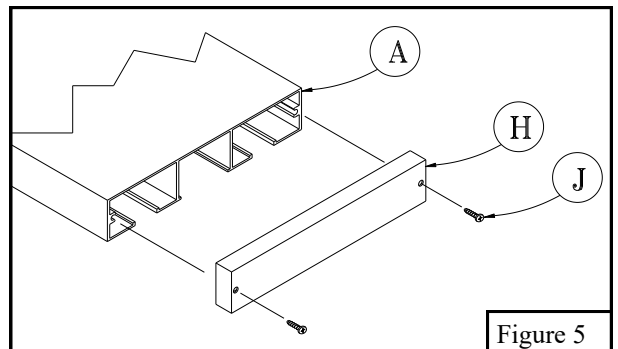

Figure 5
9. Install *Seat End Caps (H)* using $\#10 \times 3/4''$ *Sheet Metal Screws (J)*. See Figure 5.